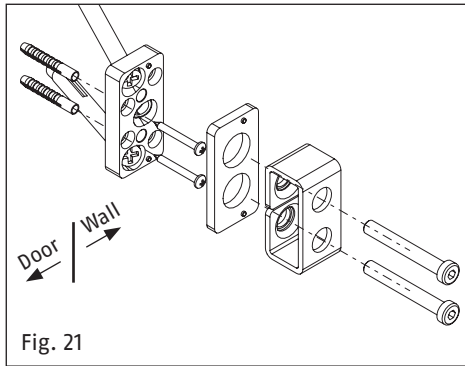
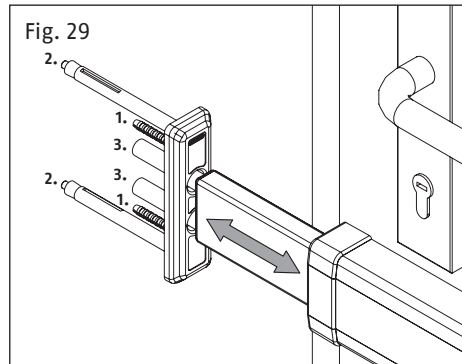

Fig. 21
Fig. 29
Pay attention to the correct location of the screw-on plate: the slope of the fixing holes in the wall must be pointed away from each door edge, when looking in the drilling direction (Fig. 21).
1. Hold the screw-on plate onto the marked lock case position without the lock case, predrill the positions for 2 screws  $\varnothing 4 \times 35$  mm for dowel and wood (dowel  $\varnothing 6$  mm, wood  $\varnothing 3$  mm),  $\varnothing 4.2 \times 22$  mm for metal  $\varnothing 3.5$  mm. Tighten the screw-on plate with 2 screws (Fig. 21).
3. Drill out both holes for the lock case mount: with  $\varnothing 7$  mm in wood and metal, with  $\varnothing 6$  mm in stone, and a depth of at least 50 mm (Fig. 21).
1. Hold the lock case with the defined plastic underlay onto the marked lock case position. For flush doors and folding thicknesses < 5 mm on the mounting position, drill holes  $\varnothing$  20 mm 6 mm deep so that the lock casings can be mounted flat. Drill through the two  $\varnothing$  10 mm mounting holes, min. 140 mm deep for 120 mm frame plugs. Insert the screw in the dowel (Fig. 21), push both into the hole up to the dowel collar and tighten the screw.
- Pre-drill the attachment points for the wall strike plate with  $\varnothing$  6 mm, insert the dowel and screw (Fig. 29).
- Drill through both of the external mounting holes (2.) with  $\varnothing$  10 mm, and a depth of at least 160 mm. Insert screw into the dowel (fig. 21) and tighten the screw firmly (Fig. 29).
- Drill out the holes for the connecting bolts (3.) with  $\varnothing$  14 - 16 mm, width a depth of 70 mm (Fig. 29). Press down the plastic cover.